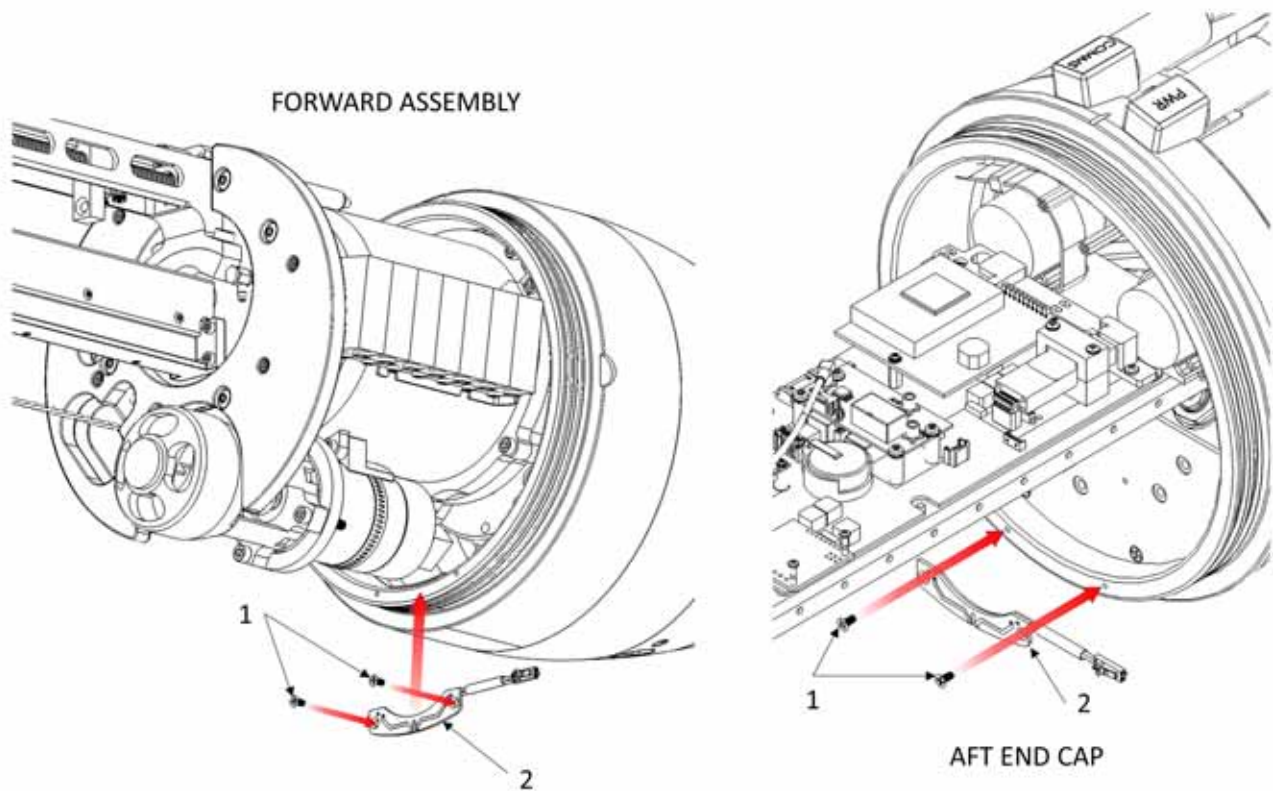

Figure 2-8 Leak detect assembly.
1. Unscrew the two screws (Figure 2-8, Item 1) from either the forward assembly or aft end cap.
2. Unplug the leak detect assembly (Figure 2-8, Item 2) from either the forward assembly or aft end cap.
3. Remove the leak detect assembly (Figure 2-8, Item 2).
1. Place the leak detect assembly (Figure 2-8, Item 2) in position on either the forward assembly or aft end cap.
2. Install the two screws (Figure 2-8, Item 1) to either the forward assembly or aft end cap.